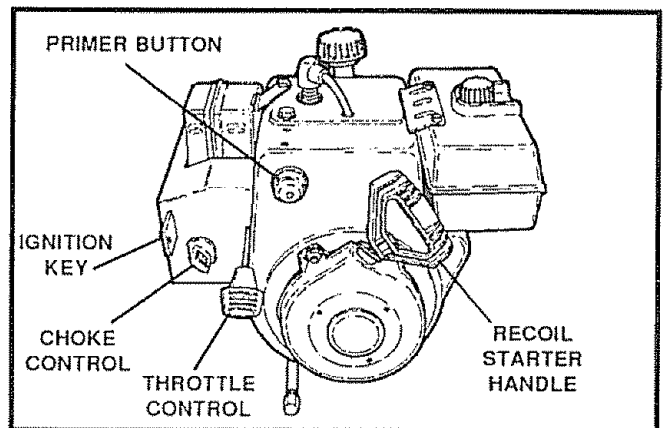

FIG. 10
- To stop the engine, push the throttle control lever to off and pull out (**DO NOT TURN**) the ignition key (See Fig 10)